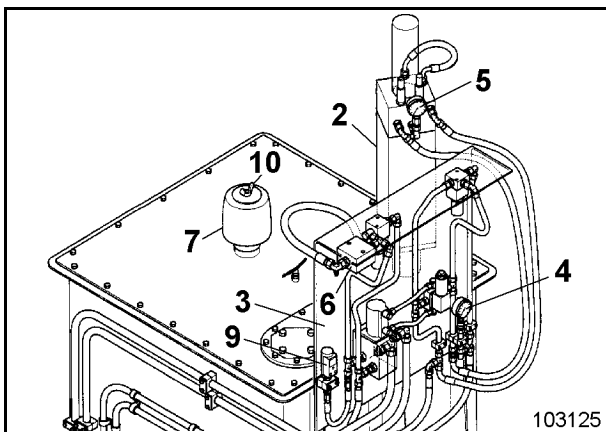

Fig. 3-140:
- Loosen nut (6, Fig. 3-140:).
- Re-insert sieve and fasten with nut (6).